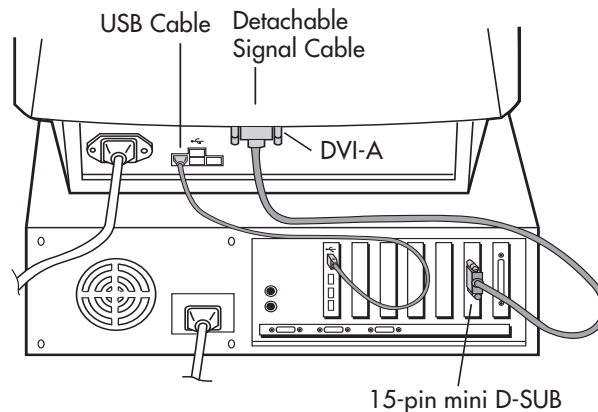

Figure A.1
3. For the PC: Connect the 15-pin mini D-SUB or DVI-A connector of the captive signal cable to the connector of the display card in your system (**Figure A.1**). Tighten all screws.